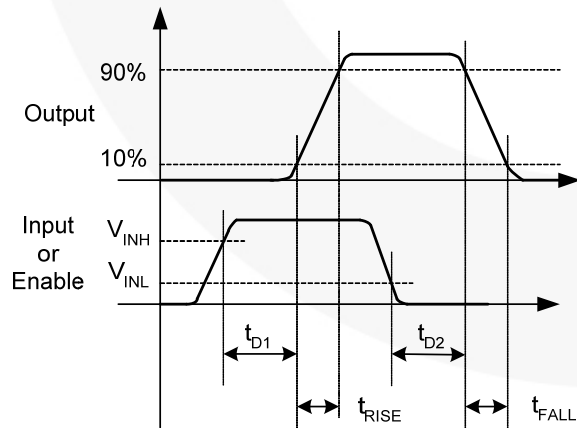
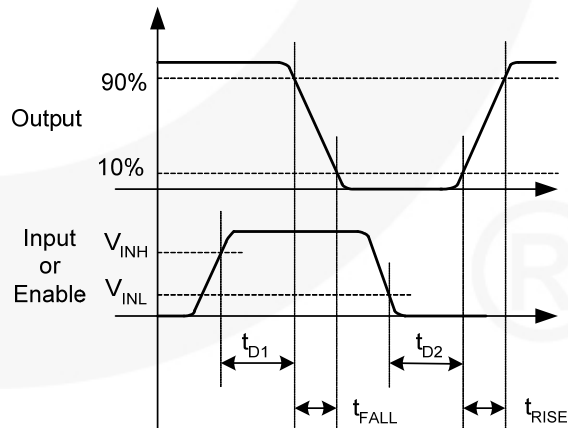

Figure 8. Non-Inverting
Figure 9. Inverting
- 11. See *Timing Diagrams of Figure 8 and Figure 9*.